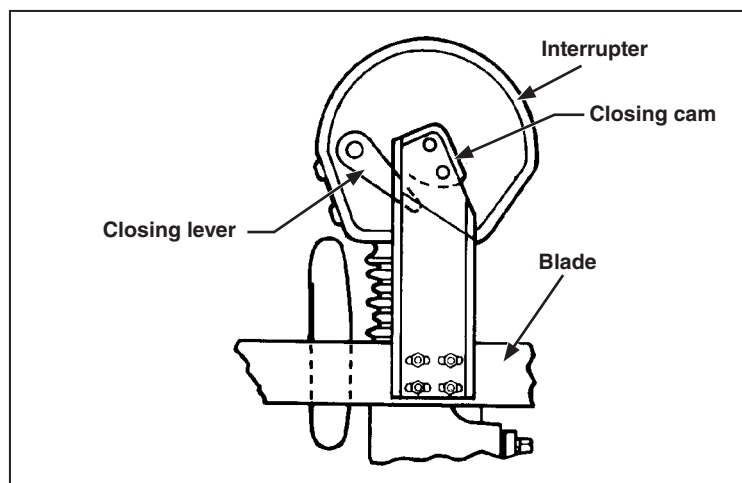

Figure 42. The blade assembly moving in the closing direction.
- (b) As the blade assembly moves in the *Closing* direction, each blade-closing cam must make positive engagement with its respective interrupter closing lever. See Figure 42.